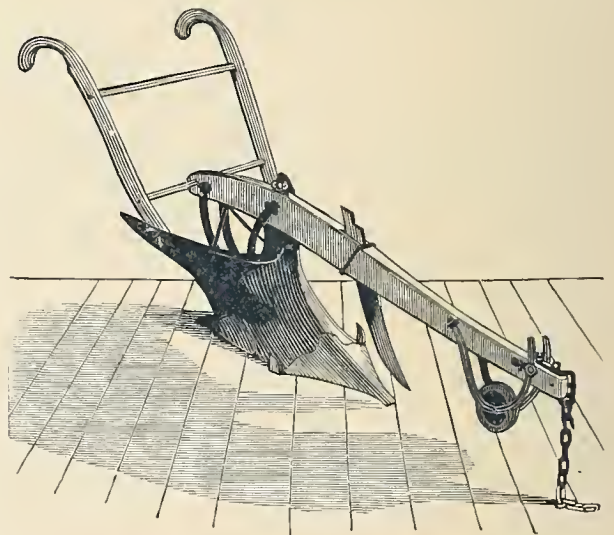

Fig. 301. — Midland Ridging Plow, No. 6.
*Improved Midland Ridging Plow*, shown by *Fig. 301*, is a double mould-board plow of the largest size, for four horses, and is calculated for gathering and distributing ridges in the cultivation of root-crops, and harvesting potatoes, but is especially designed for the forming of back furrow-ridges on grass or sward land, where manure has been spread upon the surface. This is done by throwing two furrow-slices nearly together, and enclosing the manure and vegetable matter in such a manner as to form a seed-bed most desirable for corn and other crops, — a practice successfully introduced in some sections.